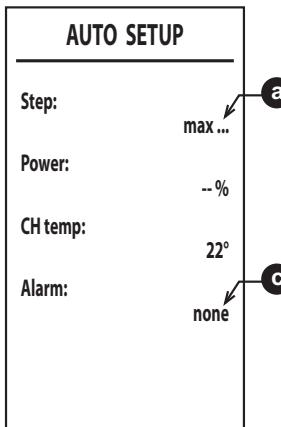

fig. 38
6. After ignition, the burner goes to heating at the various powers (max, med, min) indicated by point **a** (fig. 38).
8. If the ignition sequence described in point **"6"** is not successful, the message **max_err** at point **a** and an error code at point **c** will appear (fig. 38).